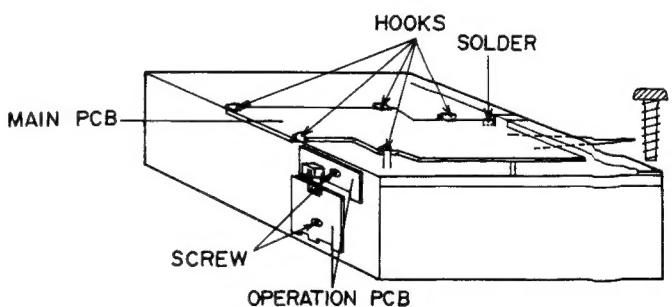

Fig. 4-2
- 1) Remove screw Ⓐ and remove solder as shown Fig. 4-2